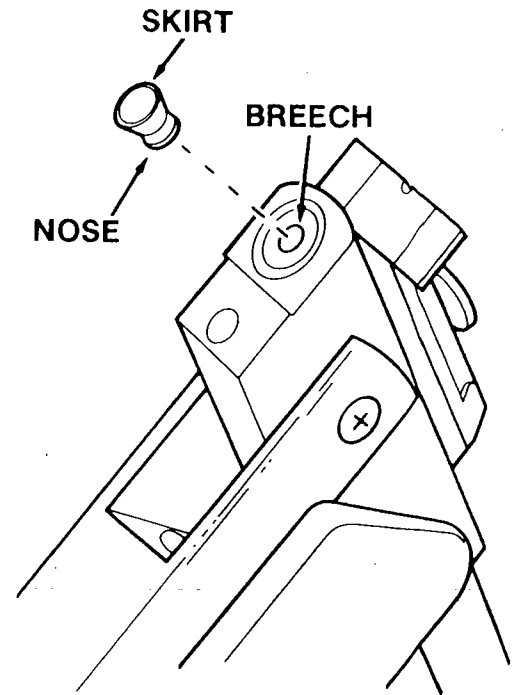

FIG. 4
- With the barrel in the open position, place one .177 caliber pellet, nose forward, into the breech. (Fig. 4.) Make sure that the skirt of the pellet is flush with face of breech. If it is not the skirt will be deformed and will cause your shot to be inaccurate. (Fig. 4.)